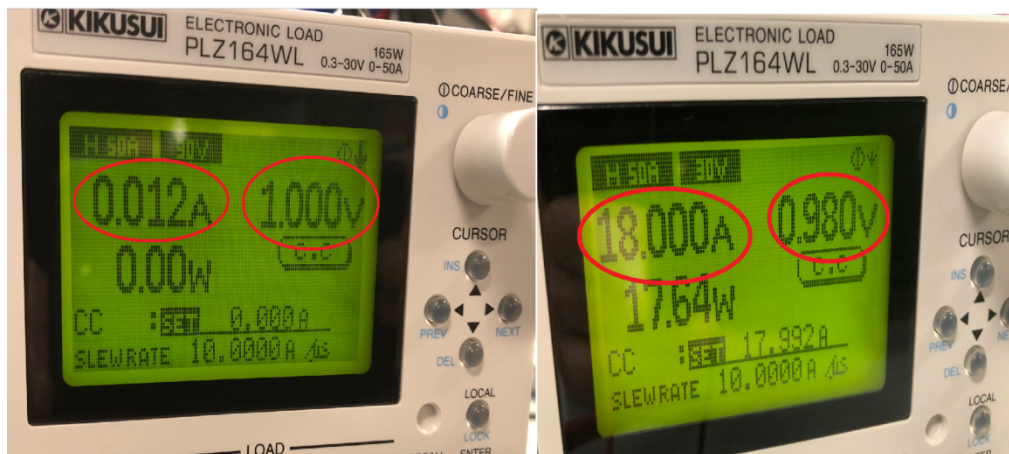

Figure 3. Output Voltage Regulation
- Turn on the e-load and sweep load current from 0 A to 18 A. The monitored output voltage at TP15 (VOUT1) is at or near 1.0 V across the entire current load sweep as shown in Figure 3.